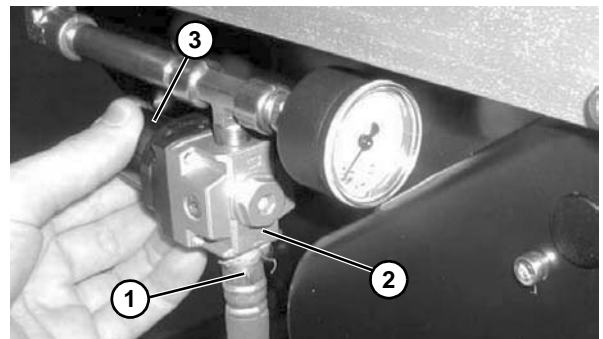

Figure 64
1. Connect air supply (Figure 64, item 1) to regulator (Figure 64, item 2).
2. Adjust regulator knob (Figure 64, item 3) until gauge reads the appropriate pressure. Adjust regulator starting at 15 psi, raising the pressure to keep the belt from slipping up to the maximum shown in the following table.